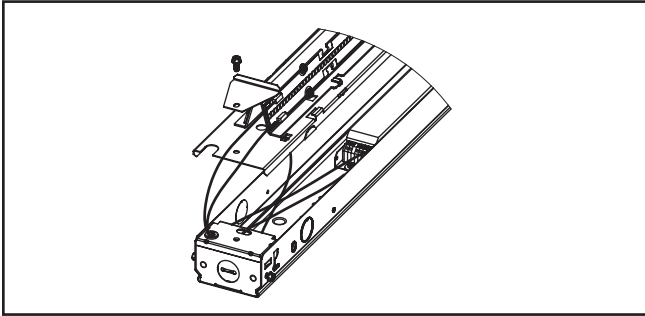

Figure 2.
3. Remove channel cover. (Figure 2.)